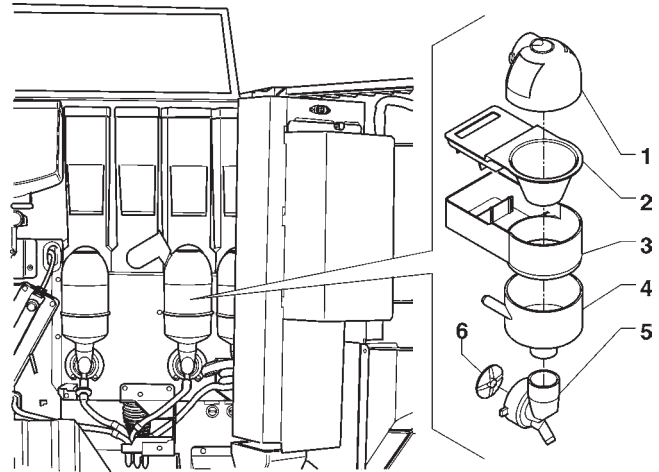

Fig. 8
- remove the powder and the water funnels, the feeders, the powder deposit drawers and the mixer wheels from the mixers (see Fig. 8);